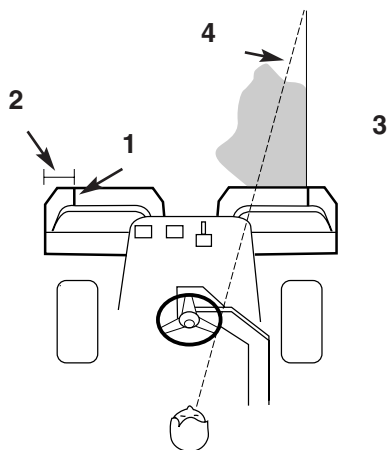

Figure 21
2. Either place a strip of white tape or paint a line onto each basket paralleling the outer edge of each basket (Fig. 21).
3. Overlap a minimal amount with the previous cut on return passes. To maintain a straight line across the green and keep the machine an equal distance from the edge of the previous cut, establish an imaginary sight line 2 to 3 meters ahead of the machine to the edge of the uncut portion of the green (Fig. 21). Some people find it useful to include the outer edge of the steering wheel as part of the sight line; i.e., keep the steering wheel edge aligned with a point that is always kept the same distance away from the front of the machine (Fig. 21).